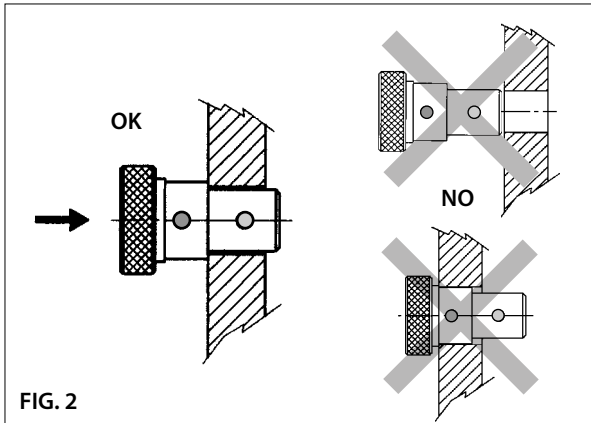

FIG. 2
2.3) Check the size of the hole with the "GO/NO GO" gauge CAL; the hole size is correct **only if the green part enters the hole**. If the red part enters, the hole is too large (Fig. 2).